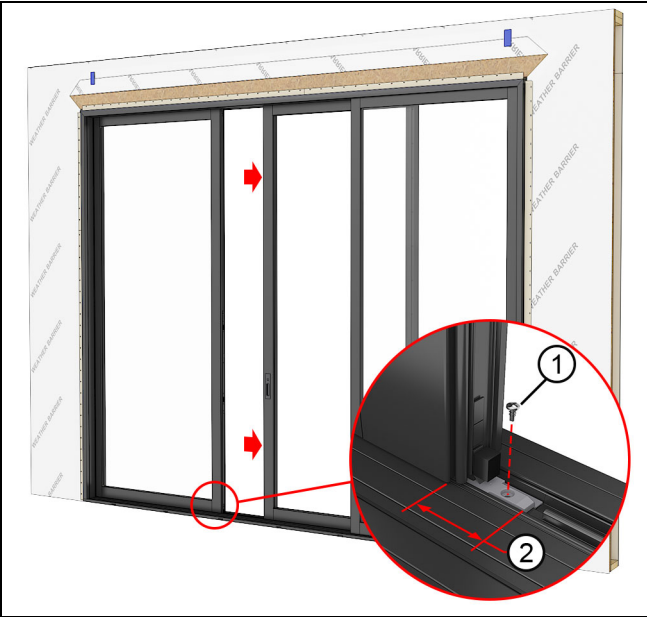

Figure 105
13. Open the operator panel and fasten the first (H) stationary panel sill bracket. The bracket should stick out approximately 2 1/4" from the panel. See Figure 105.